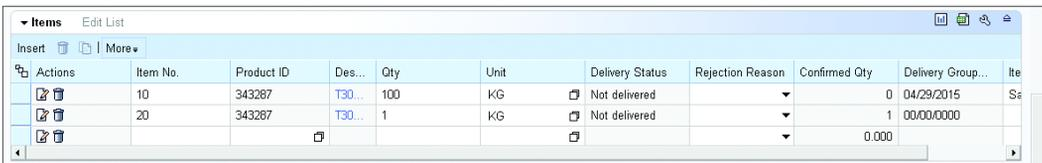

Figure 4.153 Sales Order with Free Goods Satisfying Conditions
8. Create the sales order for the customer maintained in the condition record. The product with 100KG or more is shown in Figure 4.153. You'll see that the same item appears as the subitem with ITEM No. 10 and has 100KG with 0 as the price (see Figure 4.153 and Figure 4.154).